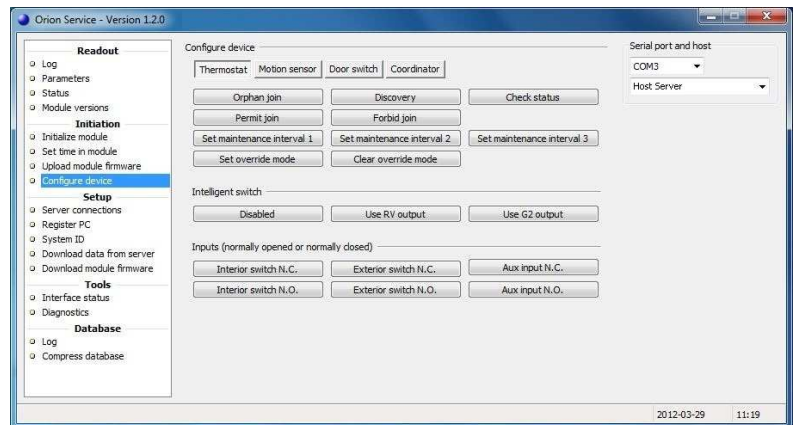

Figure 23
4. In the Orion Service software (go to **Start/Programs/Orion Service/Orion Service**), choose **Configure device** in the left pane of the window. Let the tab **Thermostat** (default) be open and click the **Discovery** button; see Figure 23. The thermostat will connect to the open gateway/router.